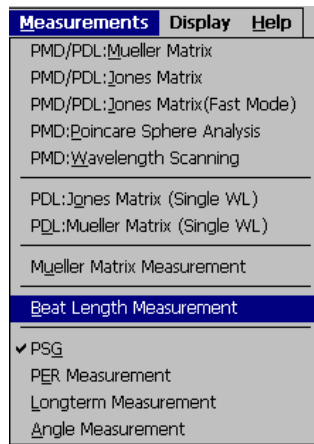

Figure 40 Beat Length Measurement selection
- Select **Beat Length Measurement** from the **Measurements** menu at the top of the main interface screen (Figure 40).